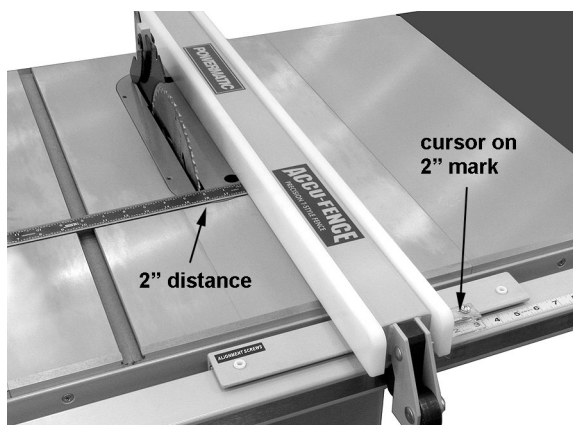

Figure 21
6. Adjust the cursor (Figure 21) to read the distance just measured and tighten the cursor assembly to the fence.